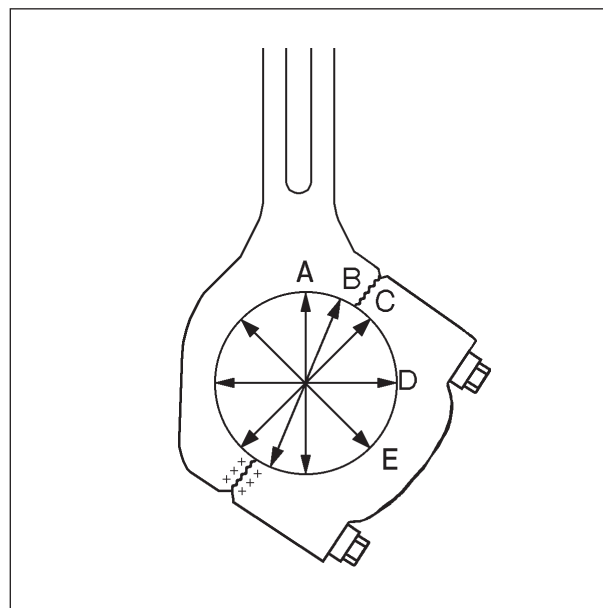

Fig. 1. Point of measurement
10. Measure five different diameters in the middle of the boring, see fig 1.